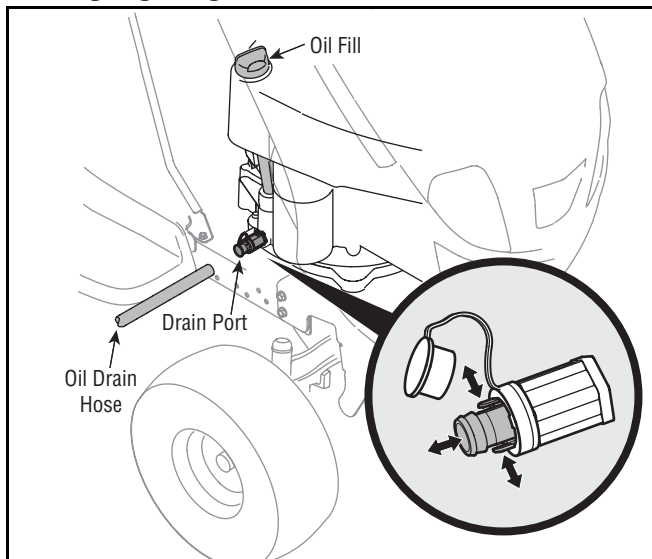

Figure 16
- Pop open the protective cap on the end of the oil drain valve to expose the oil drain port. See Figure 16.
- Pinch the tabs on the oil drain valve, then pull outward to begin draining oil. See Figure 16.